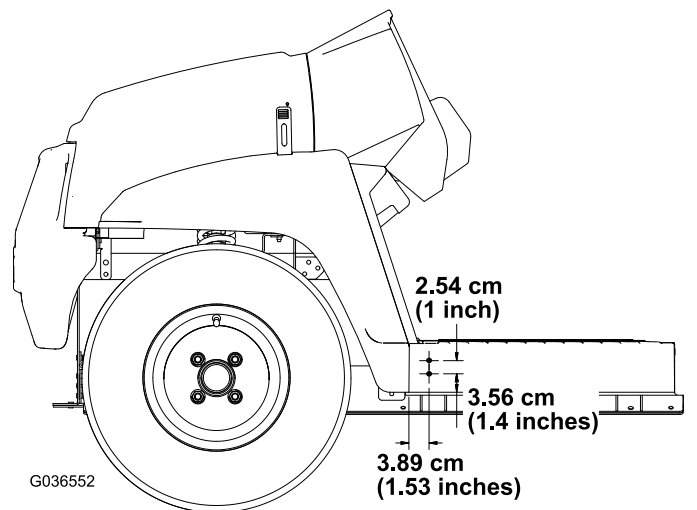

Figure 3
2. Using the dimensions shown in Figure 3, drill 2 holes ($\frac{5}{16}$ inch) into the outside of the floor plate on the left and right sides of the machine.